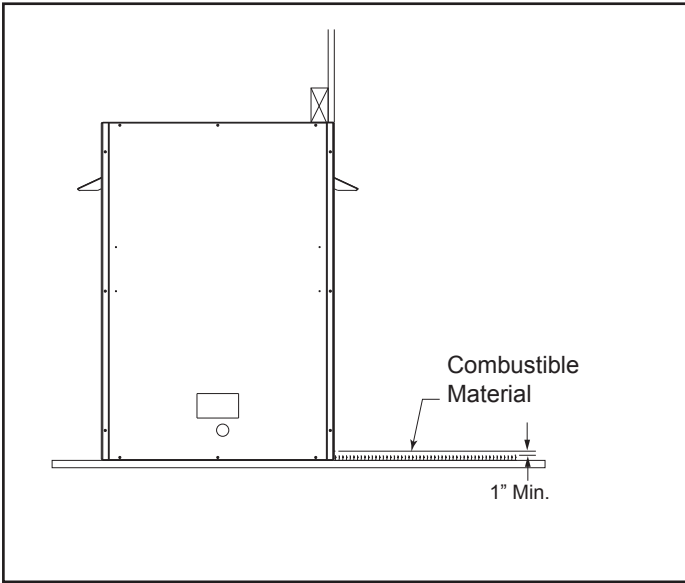

Figure 6.5 Floor Clearance Above Combustible Flooring Material
- 6. **Floor clearance:** This inner chamber firebox floor must be installed at least 1" above any combustible flooring material, such as carpeting or asphalt tile, which is closer than 14" to the base of the firebox. See Figure 6.5.